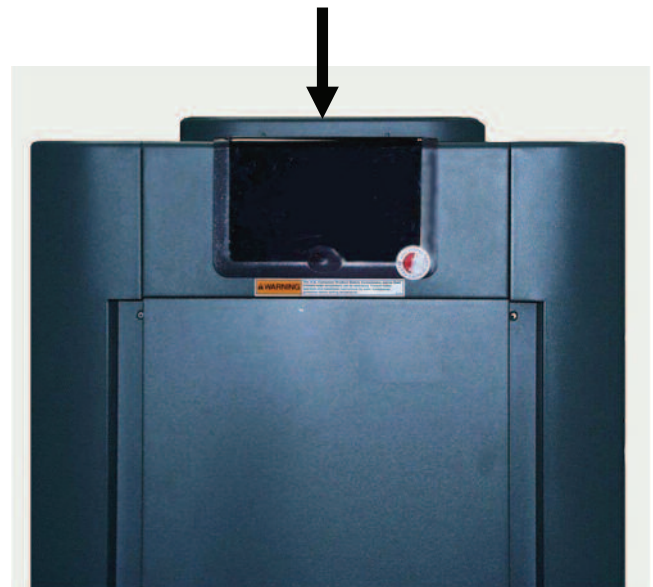

Fig. 3
2. Remove the "Pagoda Top" from the jacket top and discard. See Fig. 3.